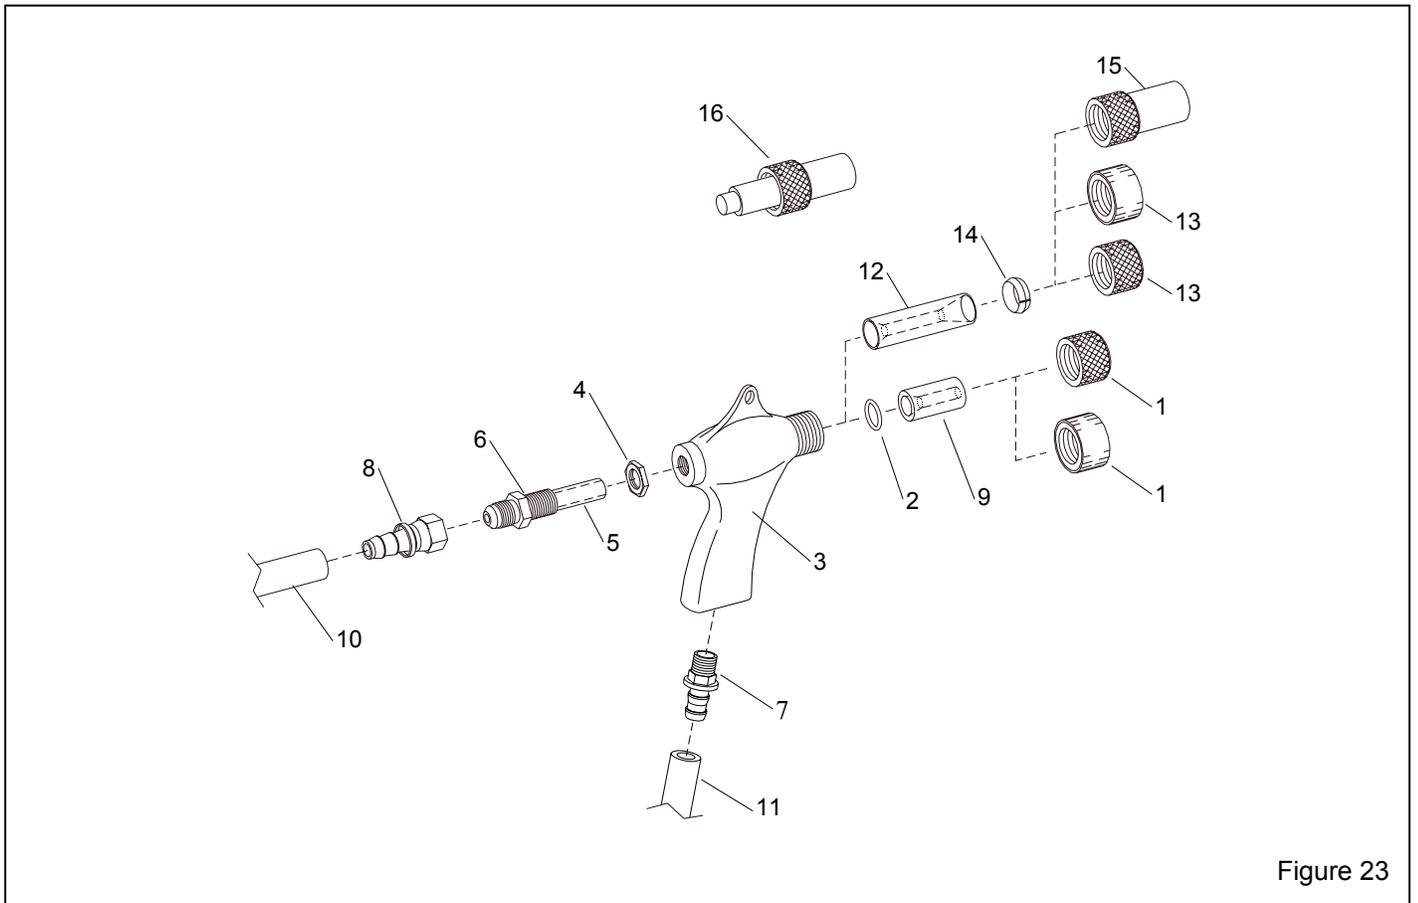

Figure 23
9.4 BNP Gun and Feed Assembly, Figure 23